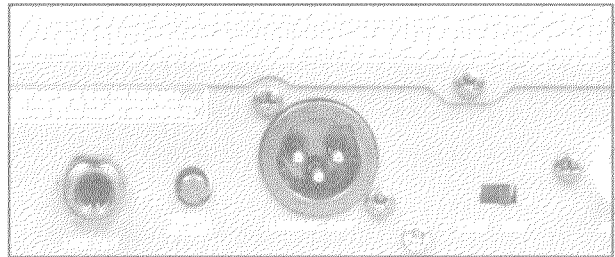

Figure 2 - Connect Audio Cable on Rear Panel
- 4) **Plug one end of your audio cable (not supplied) into the appropriate output connector (XLR or quarter-inch) on the rear panel of the receiver (see Figure 2). Plug the other end of the audio cable into the mixer/preamp/amplifier input.** The receiver XLR output is balanced; for single-ended (unbalanced) applications, use only pins 1 (common) and 2 (signal high). The output level in this mode will be 6 dB less than for the balanced mode. The unbalanced quarter-inch output is line level only, and the XLR output is switchable low or high level. Do not connect either pin 2 or pin 3 to ground (common) at any time.